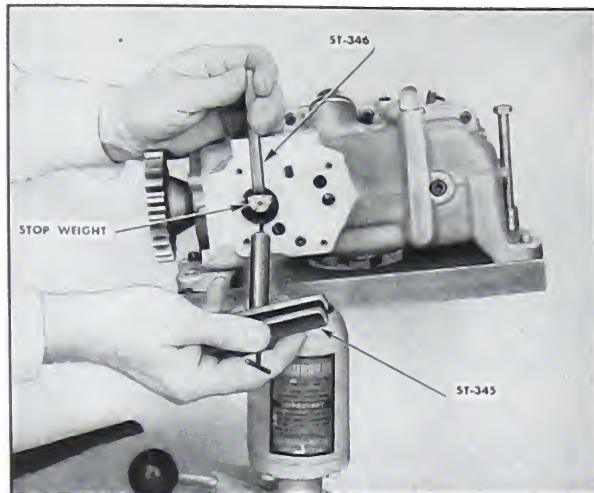

Fig. 5-270. Adjusting spring tension with weight assembled
1. ST-346 holding tool fits around and behind the camshaft to hold the weight during assembly, disassembly or adjustment. Fig. 5-270.